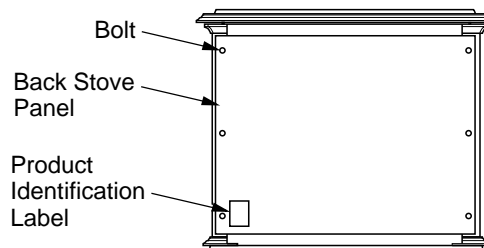

Figure 6 - Removing Back Panel
4. Remove back panel from stove and discard (see Figure 6). Use an adjustable wrench or a 10 mm socket. Remove six (6) bolts and washers. Keep bolts and washers to reattach rear cover.